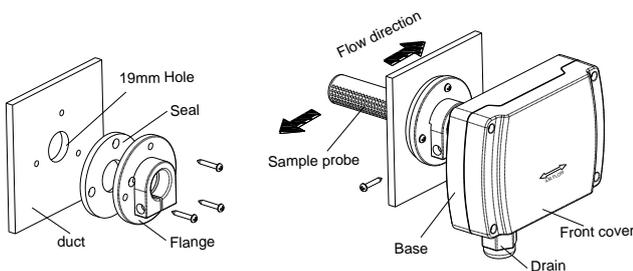

Fig.2
1. Install via the flange as Fig.2. Drill a ϕ 19mm hole on the duct, install the seal ring and the flange on, then insert the probe into, screw to lock the whole enclosure on the flange.